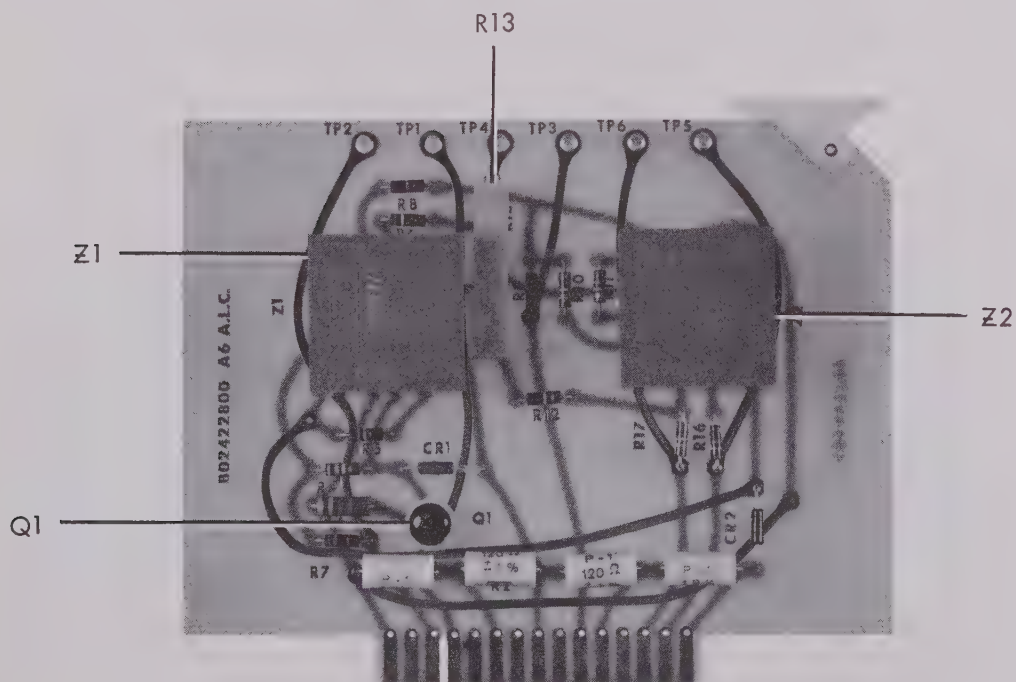

Figure 3-55. Board A6 Automatic Level Control C02422800
f. Automatic Level Control, Module A6. (See Figure 3-55) The error signal from the thermistor bridge, due to changes in signal level, is amplified by the two operational amplifiers, Z1, Z2, and the output applied to the photoresistive controls in the preamplifier to provide the leveling function. In addition, metering and variable output level control are accomplished in this closed loop control circuit.